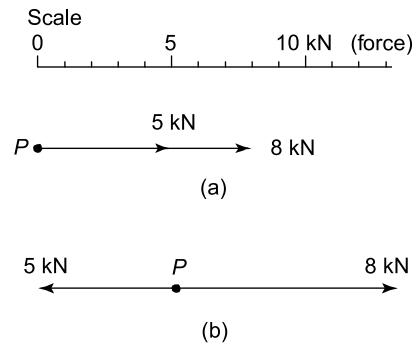

Figure 4.7
- (a) The vector diagram of the two forces acting in the same direction is shown in Figure 4.7(a), which assumes that the line of action is horizontal, although since it is not specified, could be in any direction. From above, the resultant force F is given by: $F = F_1 + F_2$, i.e. $F = (5 + 8)$ kN = **13 kN** in the direction of the original forces.
- (b) The vector diagram of the two forces acting in opposite directions is shown in Figure 4.7(b), again assuming that the line of action is in a horizontal direction. From above, the resultant force F is given by: $F = F_2 - F_1$, i.e. $F = (8 - 5)$ kN = **3 kN** in the direction of the 8 kN force.